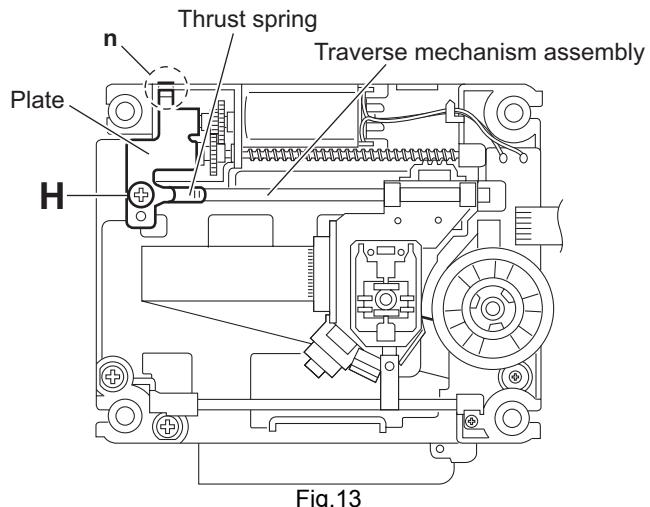

Fig.13
(See Figs.13 to 15)
- (1) From the top side of the traverse mechanism assembly, remove the screw **H** attaching the plate and thrust spring. (See Fig.13.)
- (2) Remove the plate from the joint **n** of the feed holder and take out the plate with the thrust spring. (See Fig.13.)